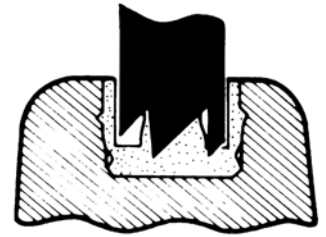

Fig. 14
2. Cut out the core of the male at low RPMS, using a short cutting cycle and in-and-out motion. Push in for about one second at a time. Check to see if the core is removed (Fig. 14). The core will remain in the core cutter and can be ejected by sliding a thin blade along the cutter's side slot.